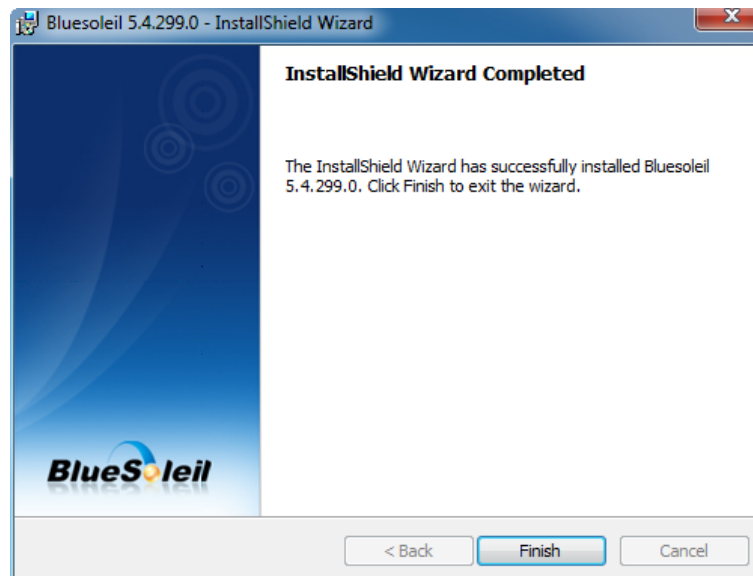

Figure 8-45: Bluetooth Driver Complete Installation Screen
Step 12: When the installation process is complete, click **FINISH**. See **Figure 8-45**.